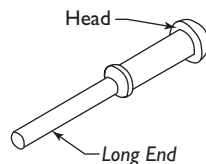

FIGURE 13 Pull Seal
2. Obtain a rubber pull seal (Part Number 315 2569 001) from the hardware kit (see FIGURE 13). An extra pull seal is also provided.